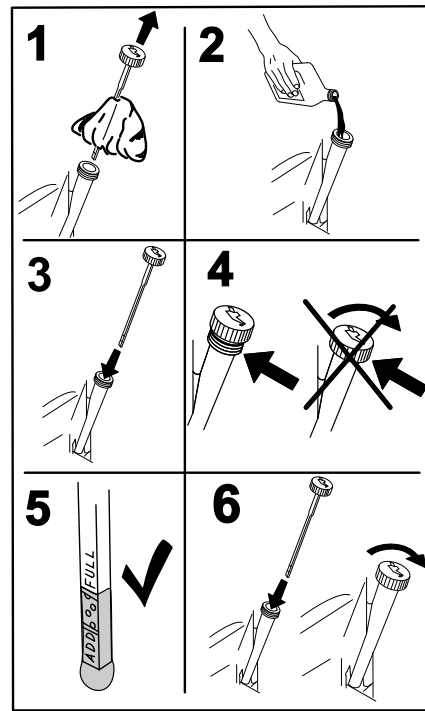

Figure 45
5. Slowly pour approximately 80% of the specified oil into the filler tube, and slowly add the additional oil to bring it to the **Full** mark (Figure 45).